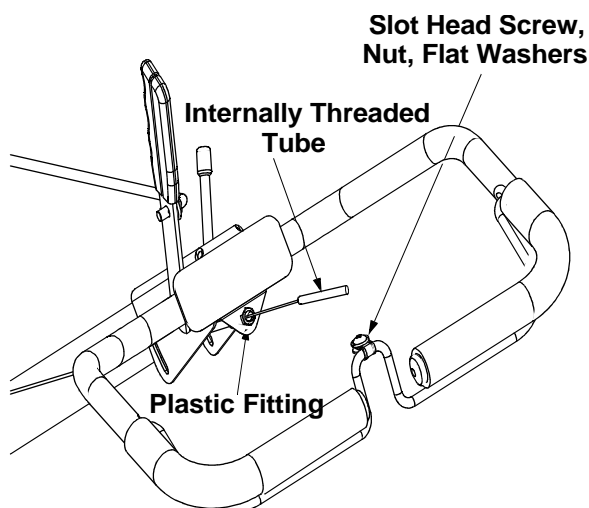

Figure 3
- Push the cable through the hole in the center of the handle and snap in the plastic fitting. See Figure 3.